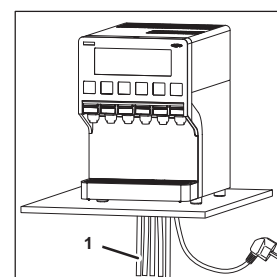

Fig. 9
4. Connect the basic ingredient tubes/beverage tubes (Fig. 9/1) at the respective points on the unit.